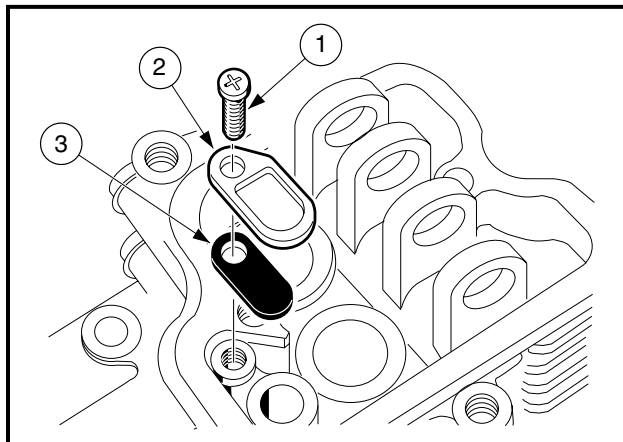

Figure 18-12 Reed Valve
1. Unscrew the mounting screw (1) and remove the back plate (2) and reed valve (3) (**Figure 18-12, Page 18-9**). For installation, see **Breather Valve Installation on page 18-18**.